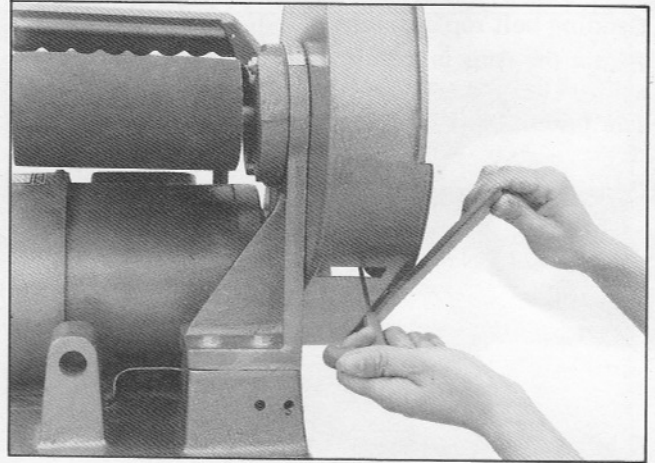

Fig. 12
3. Use the allen wrench as shown in Fig. 12, insert the wrench in the rectangular window opened at the bottom of the disc cover. Loosen the set screw inside and take off the sanding disc. When you are going to put the disc back, remember that the set screw must mount on the flatness side of the shaft and tighten.